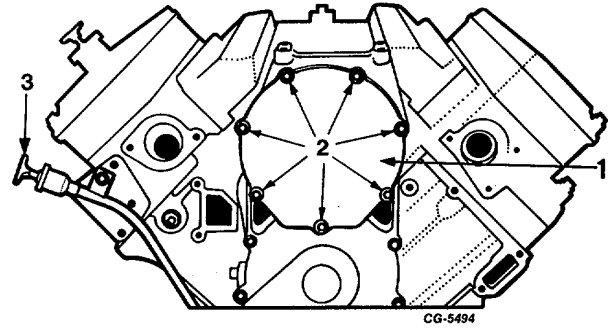

Fig. 29 Removing Injection Pump Drive Gear Cover and Dipstick
22. Remove injection pump drive gear cover by removing seven bolts, then remove cover (Figure 29). Remove the oil level dipstick by turning back-and-forth and pulling at the same time.